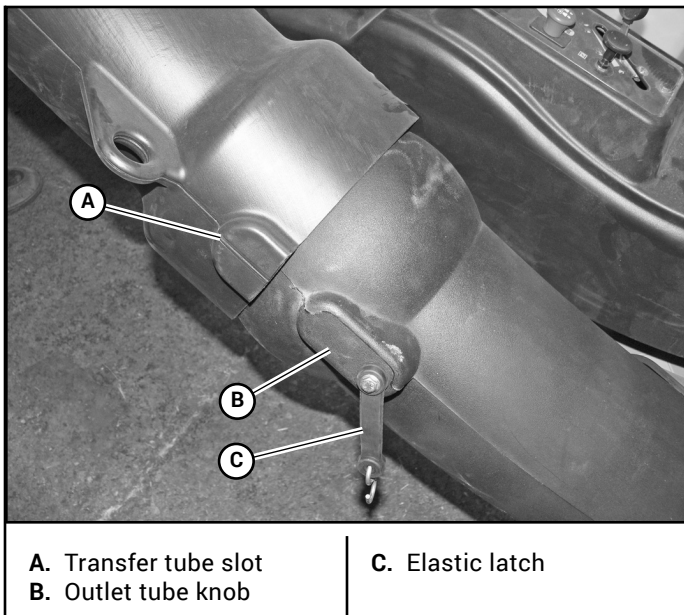
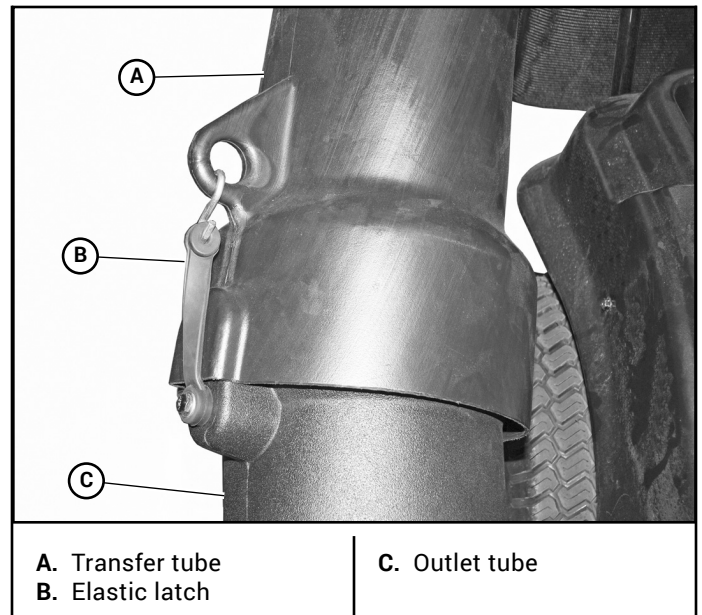

Figure 3-18
Figure 3-19
21. Attach the transfer tube to the outlet tube by aligning the slot on the transfer tube with the knob on the outlet tube and hooking the elastic latch through the loop of the transfer tube. Figure 3-18 & Figure 3-19